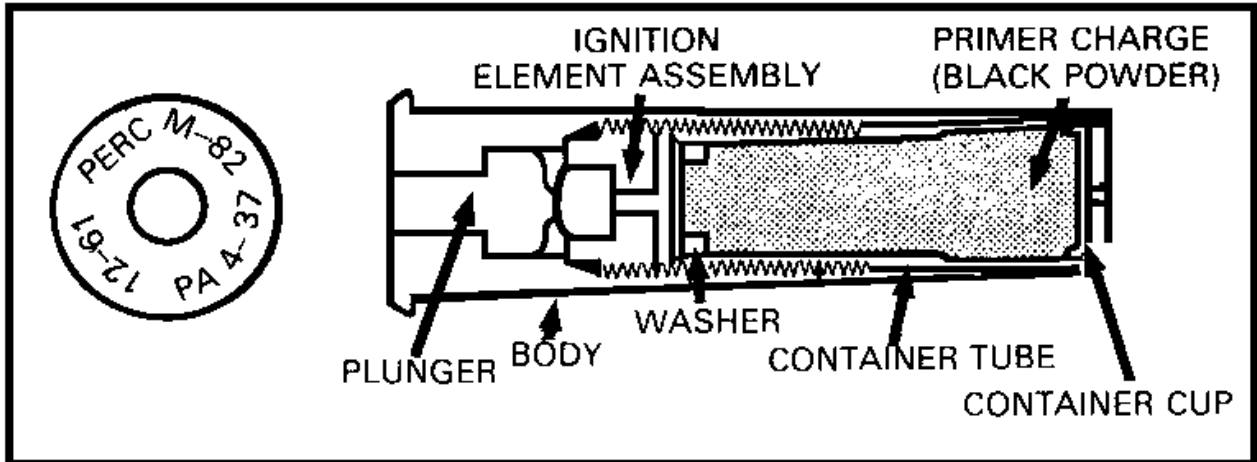

Figure 27. M82 primer.
(1) Primer M82. The M82 primer (Figure 27) is the only authorized primer to be used in the 155-mm, M198 towed, and the 155-mm M109A5/A6 self-propelled howitzers. The primers are ready for firing when unpacked and inspected.